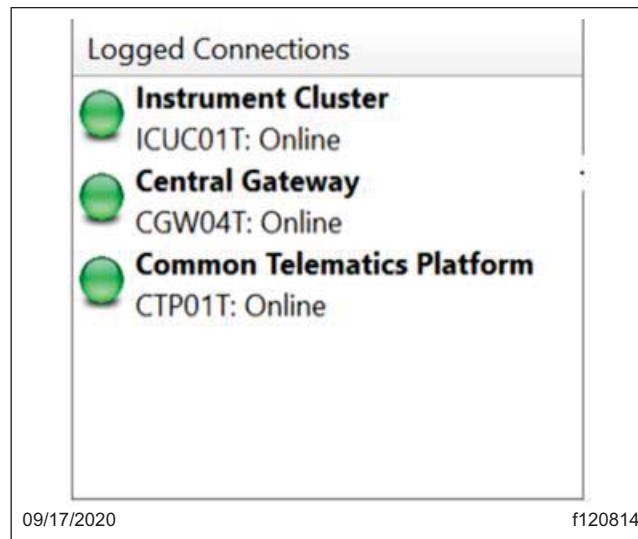

Fig. 3, DiagnosticLink Logged Connections Panel
7. Wait until all the three devices are fully connected and the connection indicators turn green. See Fig. 3.